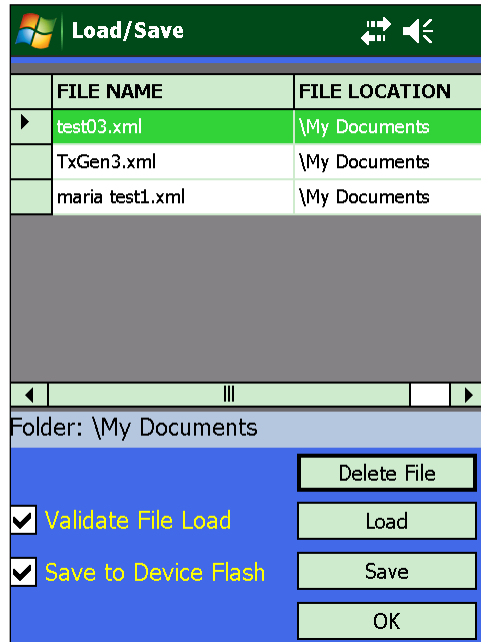

Figure 17: Load/Save Screen with New Preset Added
3. The new preset file “test03” displays in the preset list on the Load/Save screen, as shown in Figure 17.